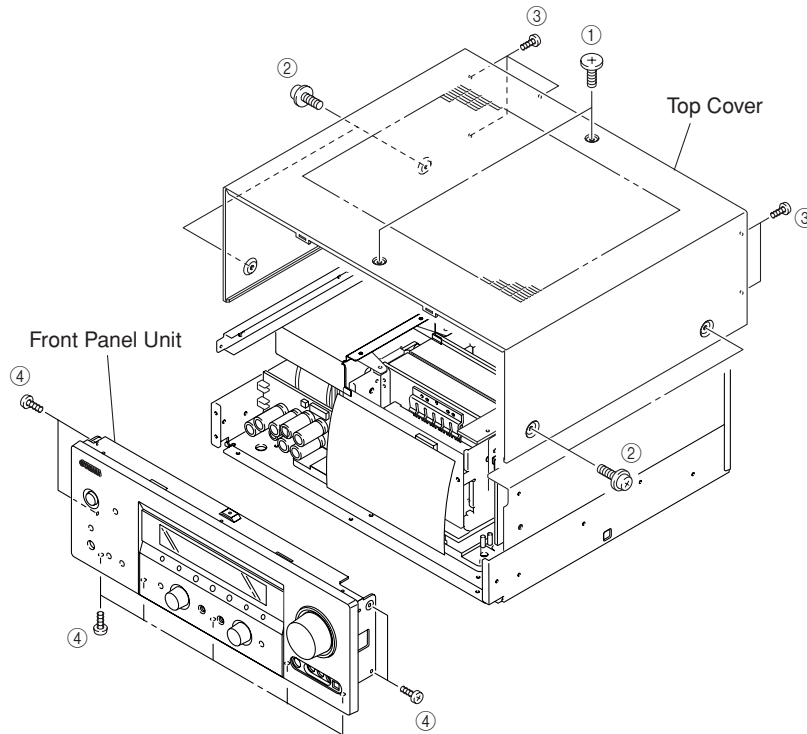

Fig. 1
- Remove 2 screws (①), 4 screws (②) and 5 screws (③). (Fig. 1)
- Slide the Top Cover rearward to remove it. (Fig. 1)
- Remove 9 screws (④) and then slide the Front Panel Unit forward. (Fig. 1)